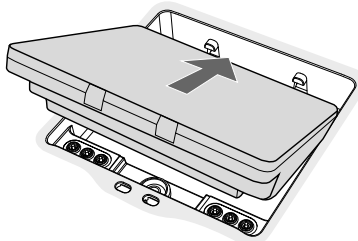

Fig. 39 Inserting the power pack
2. Insert the power pack into the recess (Fig. 39).